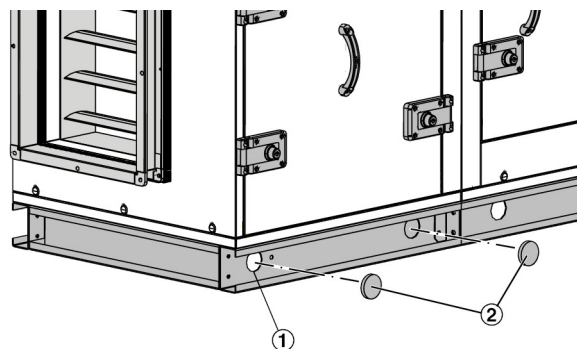

Fig. 24: Fitting plugs
- ▶ Seal the transport openings ( Fig. 24 /1) in the base frame of the air handling unit with the plugs ( Fig. 24 /2) provided.